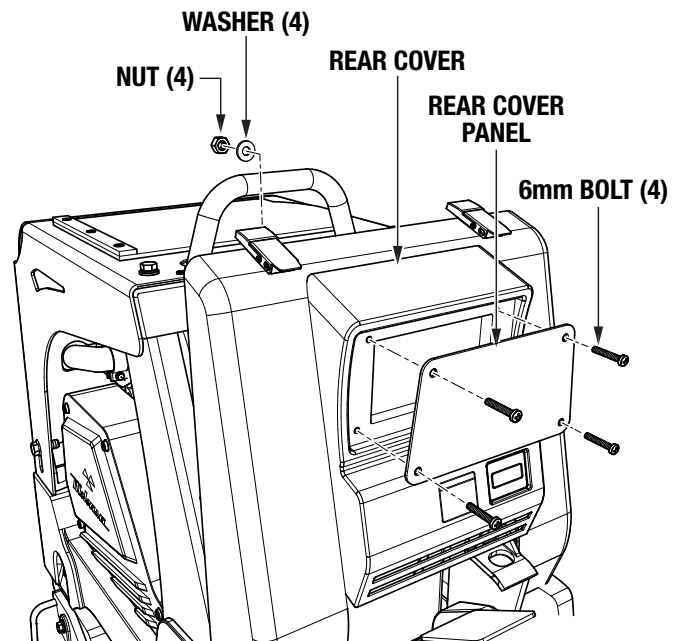

Figure 13. Rear Cover Panel Removal
4. Remove the four 6 mm bolts, nuts, and washers securing the rear cover panel to the rear cover, and set them aside (Figure 13). Discard the rear cover panel.